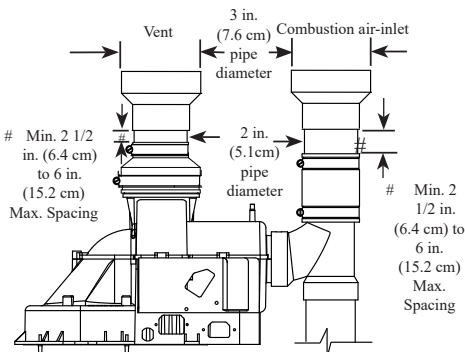

Figure 2
- Followed by a 2 in. (5.1 cm) to 3 in. (7.6 cm) diameter, ULC-S636 approved pipe increaser fitting (See Figure 2).
- Followed by a 2 in. (5.1 cm) to 3 in. (7.6 cm) diameter pipe increaser fitting (See Figure 2).